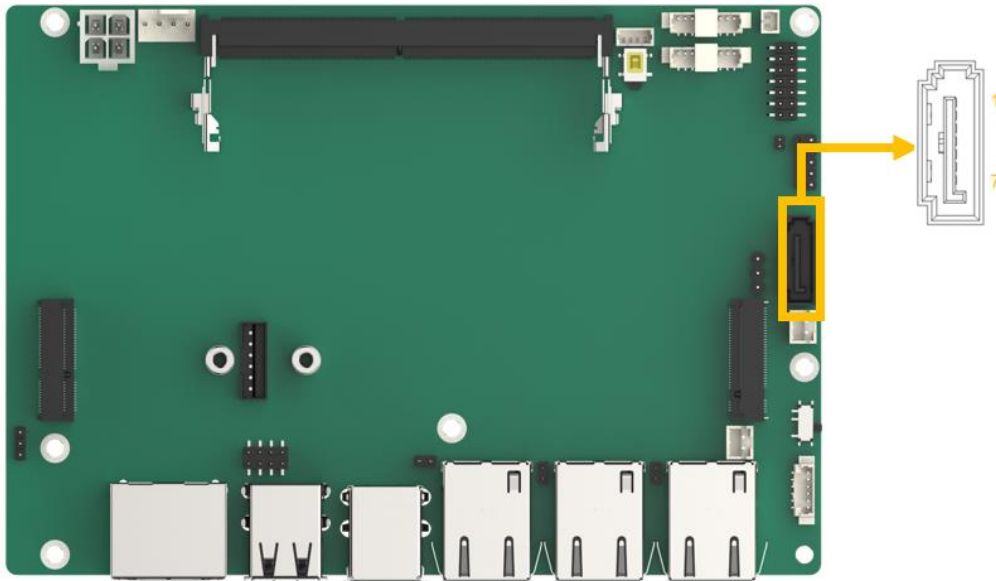

Figure 4-16: SATA 6Gb/s Connector Location
- CN Location:** See **Figure 4-16**